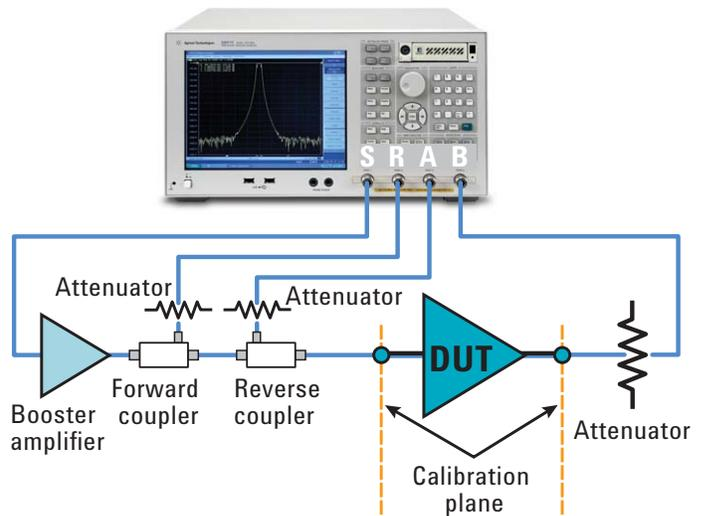

Figure 10. Test setup of high-power measurements with external test set mode in 4-port ENA
arranged as a source port (S channel), reference port (R channel), and test ports for reflection and transmission responses (A & B channels). The configuration is presented in Figure 10. Note that since the source port is fixed on port 1 of the ENA with external test set mode, full 2-port calibration is unavailable and S22 or S12 cannot be obtained. Enhanced response cal is recommended to get the most accurate results with this mode.
- (1) **Connect the external couplers and the DUT. (Figure 10)**
- (2) **Set up the external test set mode.**